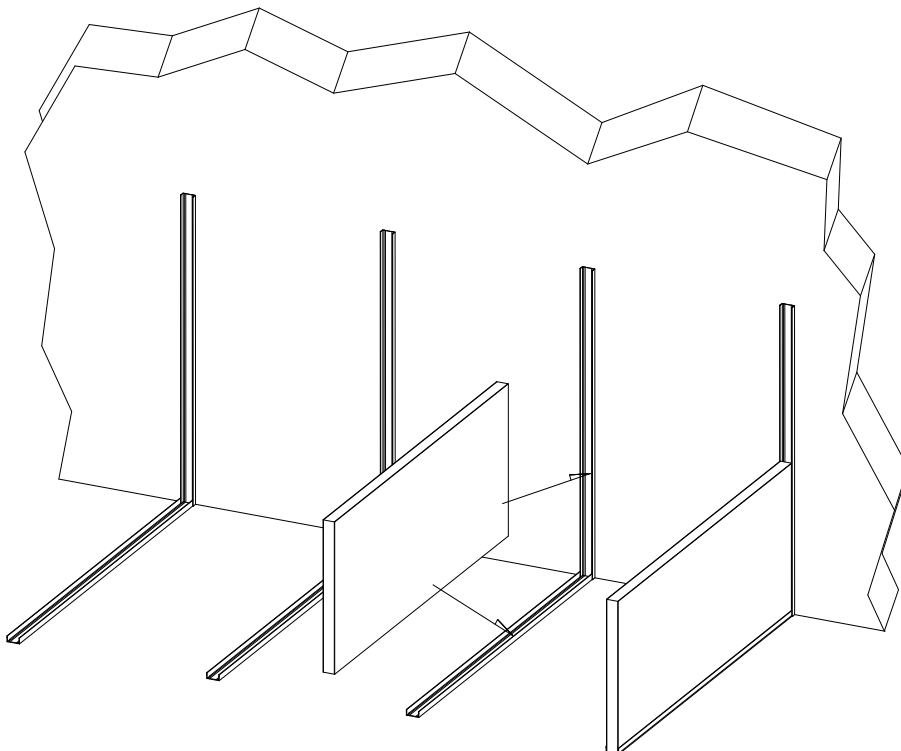

Figure 13
6. Insert the lower filler panels into the “A” and “B” extrusions. Do this for all division walls. See figure 13.